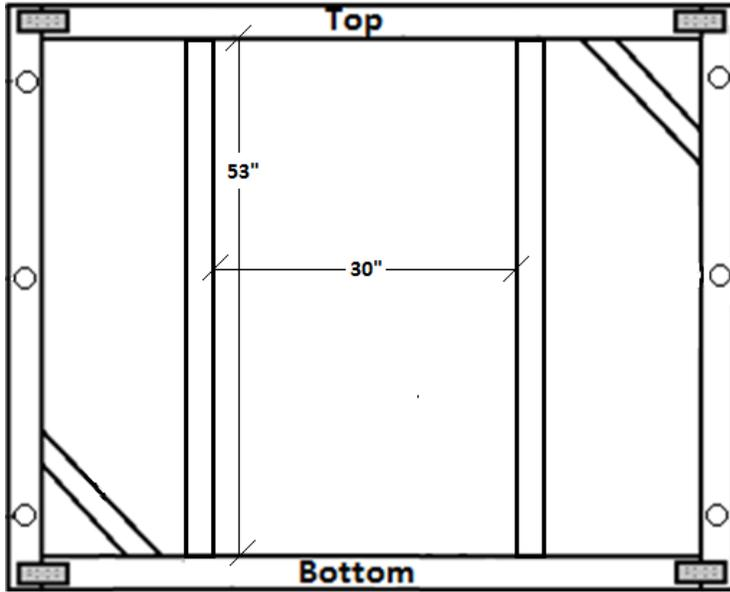
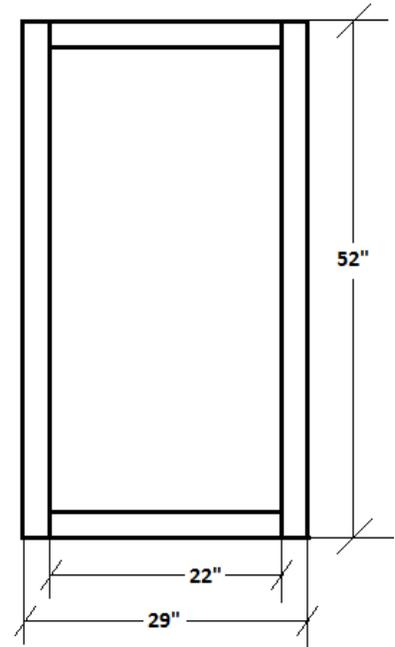

Figure 2-8
Figure 2-9
1. Cut (2) 2x4's to 53" and attach them 30" apart, centered on one side (Figure 2-8). Construct the door from 2X4"s, 29" wide by 52" tall (Figure 2-9).